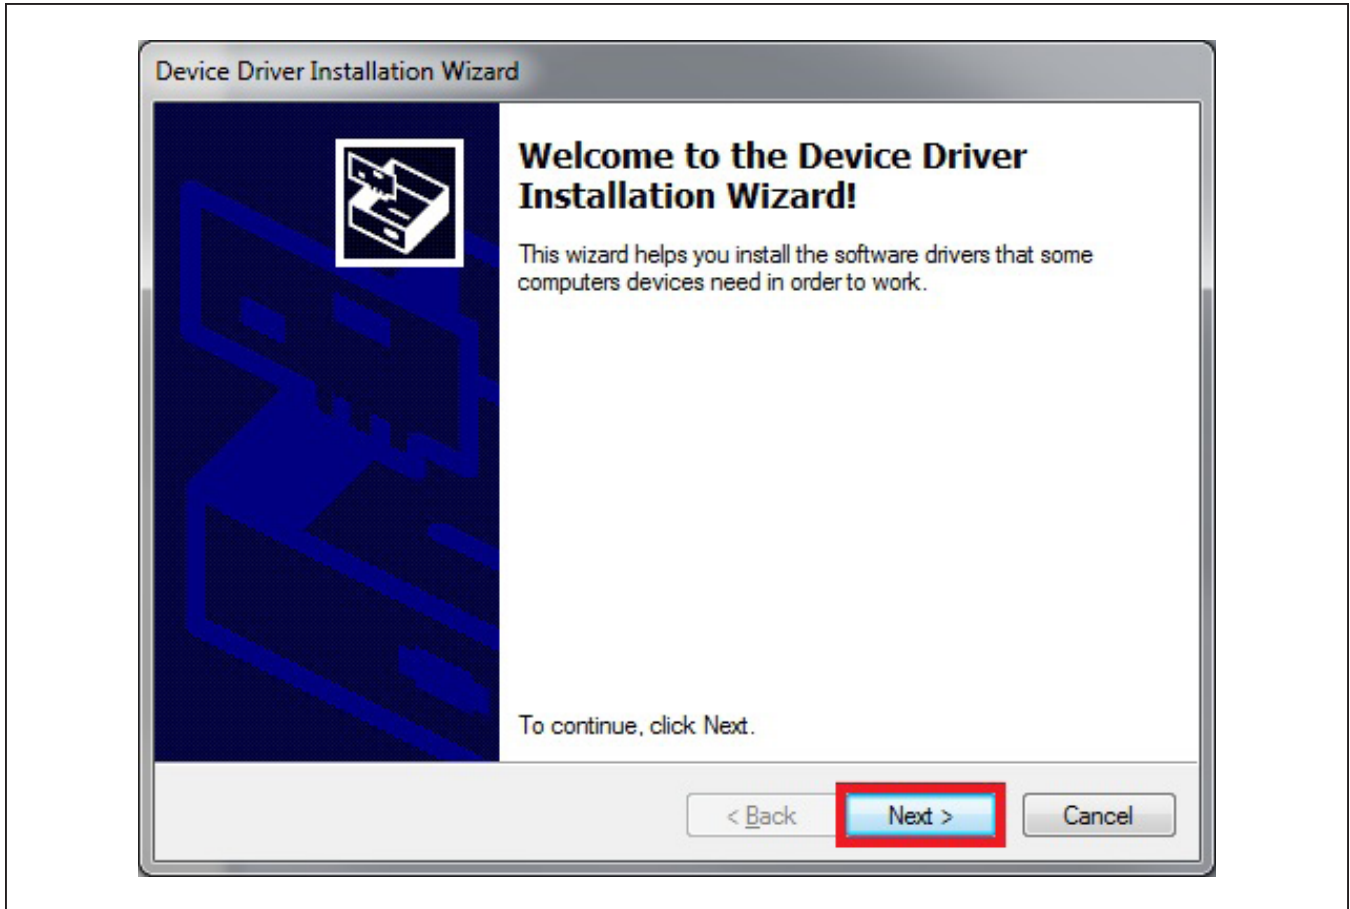

Figure 6. Device Driver
7) Click on **Next** when the Device Driver Installation Wizard appears (Figure 6).